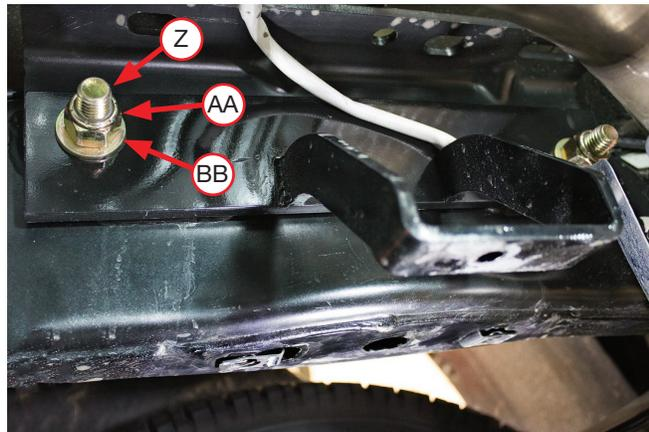

Fig. 33
- Remove the factory fifth wheel hitch hardware (if equipped), from the holes in the side of the frame. Using the existing holes in the frame, attach the upper frame brace (F) to the frame using the factory hitch hardware removed or the 5/8" (Z, AA, BB) hardware supplied (Fig. 33). Leave loose at this time.